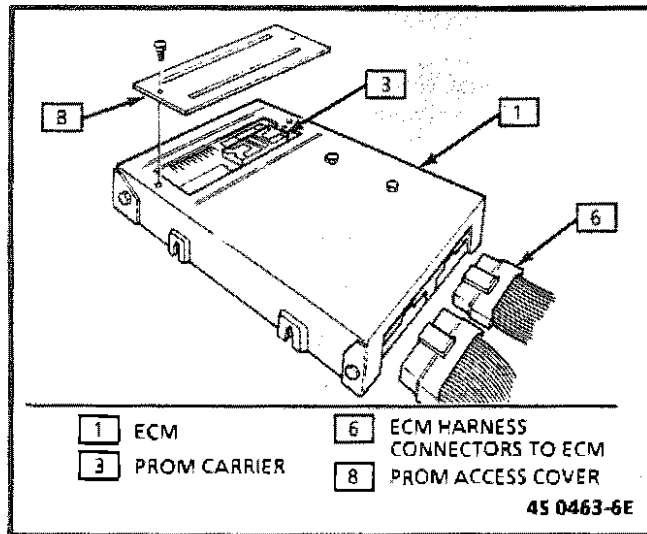

Figure C1-8 - PROM Access Cover
4. Prom access cover (see Figure C1-8).